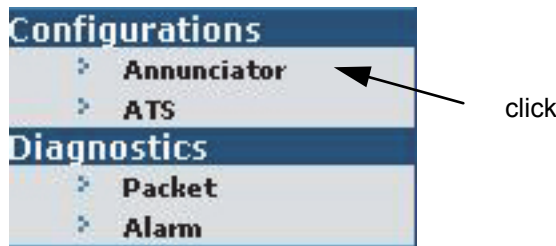

Figure 5: Configurations > Annunciator
5. On the left pane, under *Configurations*, click *Annunciator* to configure the ATS Remote Annunciator. See Figure 5.